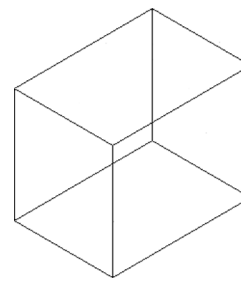

FIGURE 20.7 Isometric drawing, Step 9.
Step 9. And the final result, after a few more lines, is seen in Fig. 20.7.